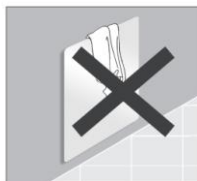

Fig 6
- It is important not to cover the appliance at any time in order to avoid dangerous overheating. (Fig. 6)
By pressing the “Mode” button again, the subsequent day will be displayed and the user will be able to set, in the same way, the modes for the hours from 0 to 23. **(Fig. 6)**